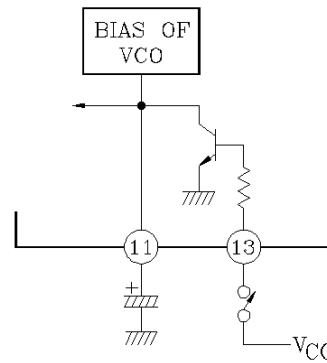

Fig. 4
(4) Compulsive Monaural function
In Case that the terminal pin⑬ is connected to V_{CC} as Fig.4, this item becomes compulsive monaural mode, That causes the V_{CO} stopping. Connected as Fig.5, switchover between AM/FM mode is possible with one-make switch.
(5) Anti-birdy Effect